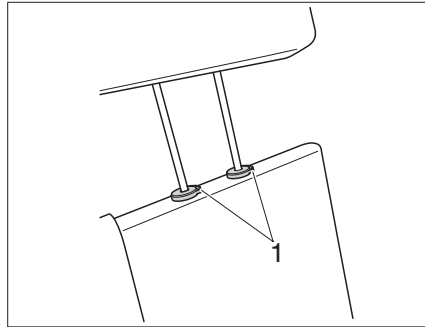

Fig. 13 Headrest for bench seat (Variant 2)
- ▶ Press both safety catches (Fig. 13,1) to adjust or remove the headrests.